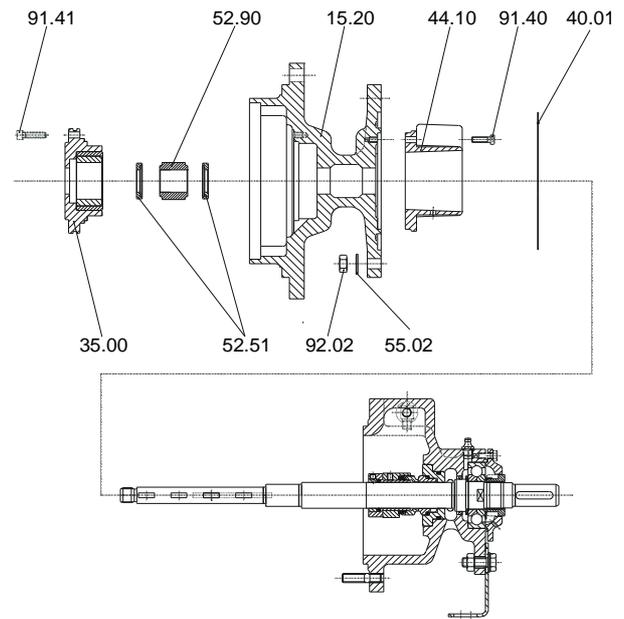

Fig. 3
8. Remove Allen screws 91.41 and dismantle bearing carrier 35.00 (lever out if necessary) (fig. 3).
9. Withdraw bearing bush 52.90 and spacer rings 52.51 from the shaft (fig. 3).
10. Loosen hexagonal nut 92.02, remove washer 55.02 and dismantle intermediate flange 15.20 (fig. 3).
11. Only if damaged, dismantle the housing for mechanical seal 44.10. To do this, unscrew bolts 91.40 and remove the housing (fig. 3).